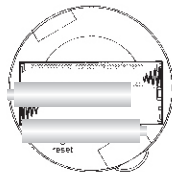

Figure 5. reset (Thermometer Sensor)
3. Press **reset** in the battery compartment using a pointed object such as a paper clip (Figure 5).